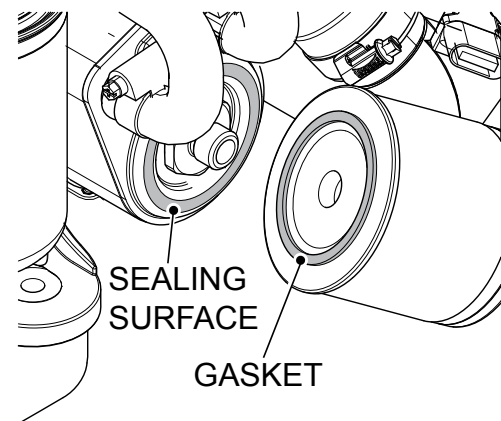

Figure 39. Changing Oil Filter
3. Thoroughly clean the sealing surface (Figure 39).